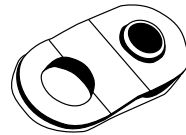

Figure 9
3. To maximize winch and wire rope life, use a pulley block to double line heavier loads (Figure 9).